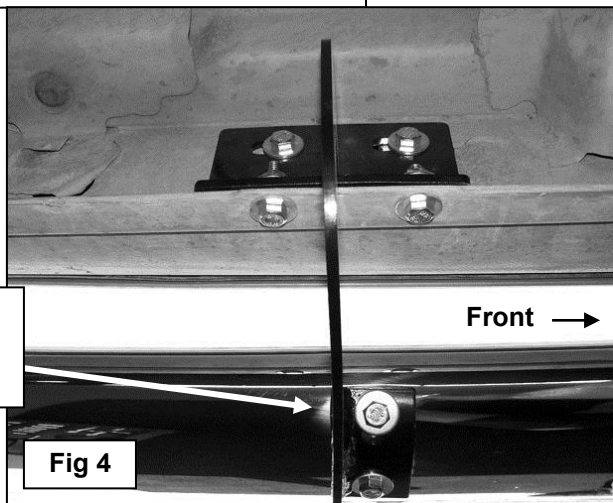

Fig 4
5. Carefully position the Sidebar onto the Mounting Brackets and attach it using the included (4) 8mm x 25mm Hex Bolts, (4) 8mm Lock Washers and (4) 8mm STD Flat Washers, (**Figure 4**). Do not tighten hardware at this time.